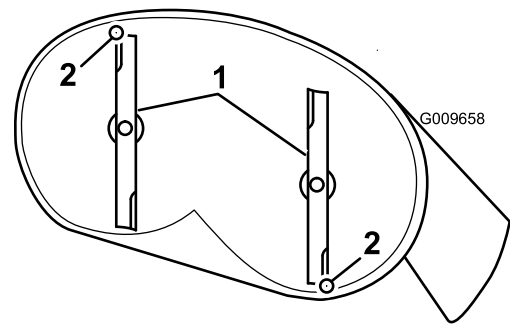
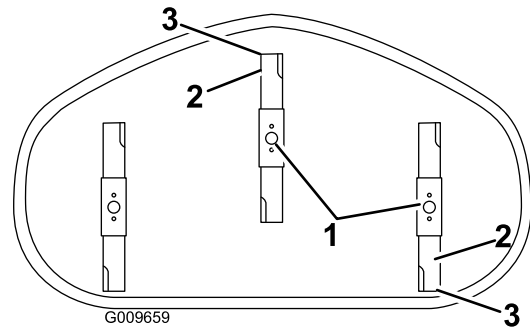

Figure 53
Figure 54
4. Carefully rotate the blades so they are facing front to rear (Figure 53 and Figure 54).
5. Measure from the tip of the front blade to the flat surface and the tip of the rear blade to the flat surface (Figure 53 and Figure 54).
9. After adjustment, check the front-to-rear slope again, continue adjusting the nut until the front blade tip is 1.6 to 7.9 mm (1/16 to 5/16 inch) lower than the rear blade tip (Figure 53 and Figure 54).